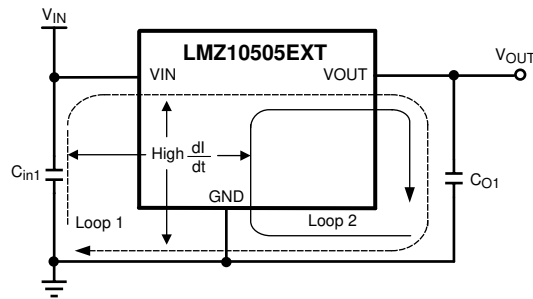

Figure 29. Critical Current Loops to Minimize
From an EMI reduction standpoint, it is imperative to minimize the high di/dt current paths. The high current that does not overlap contains high di/dt, see Figure 29. Therefore physically place input capacitor (C_{in1}) as close as possible to the LMZ10505EXT VIN pin and GND exposed pad to avoid observable high-frequency noise on the output pin. This will minimize the high di/dt area and reduce radiated EMI. Additionally, grounding for both the input and output capacitor should consist of a localized top side plane that connects to the GND exposed pad (EP).